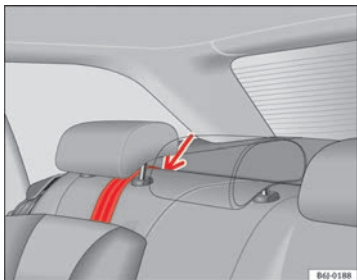

Fig. 28 Retainer strap: correct adjustment and fitting
- Lead the Top Tether fastening belt under the rear seat head restraint → fig. 28 (lift the head restraint where necessary).